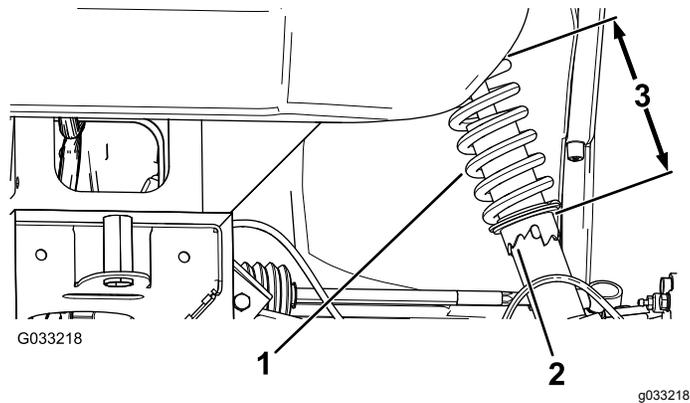

Figure 58
2. If the wheel camber is out of alignment, use the spanner wrench to rotate the collar on the shock absorber to align the wheel (Figure 58).